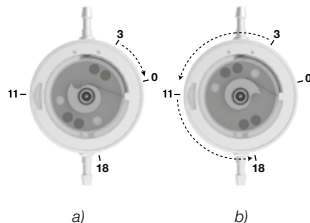

Fig. 10: Rotor rotation during adjustment
**NOTE:** Fig. 10 depicts the function of the inner components and should not be used to determine the orientation of the valve radiographically.